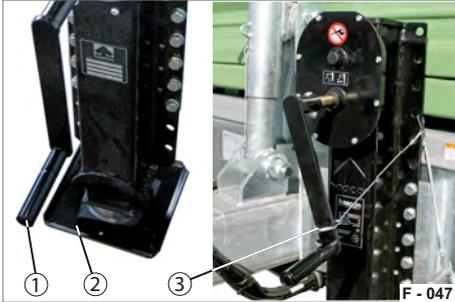

Fig. 72 Support foot retracted
▶ Secure the crank handle with the securing cable (Fig. 72/3).
- ▶ Crank the support foot (Fig. 72/2) to the top in overdrive.
- ▶ Wrap the securing cable (Fig. 72/3) around the crank handle and secure it with the hook.